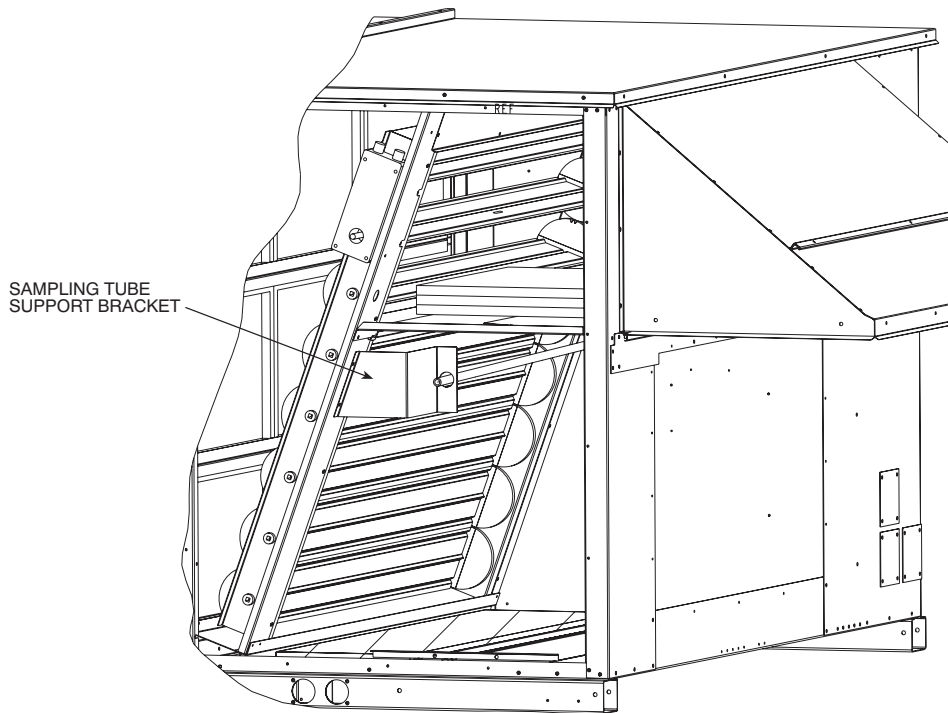

Fig. 5 – Sampling Tube Support Bracket
10. Mount the sampling tube support bracket to the cross member with two 1/4AB-14 5/8-in. screws (P/N AL48AM307) as shown in Fig. 5. Insert large snap bushing (P/N HY93NH085) into hole in bracket.